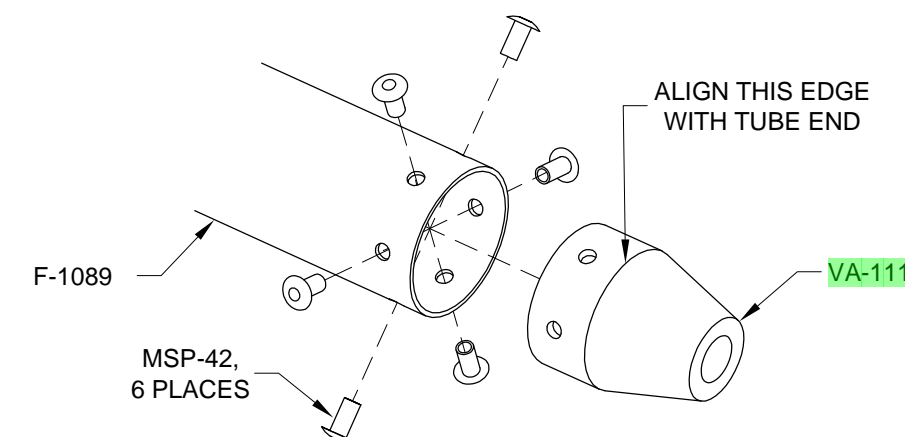

FIGURE 3: THREADED ROD END INSTALLATION
Step 4: Insert a **VA-111** Threaded Rod End into the end of the **F-1089** Elevator Pushrod (Fwd). Proper engagement of the threaded rod end in the elevator pushrod is when the end of the tube coincides with the edge of the taper in the threaded rod end. See Figure 3.
Permanently install the threaded rod ends to the elevator pushrod using the rivets called-out in Figure 3.